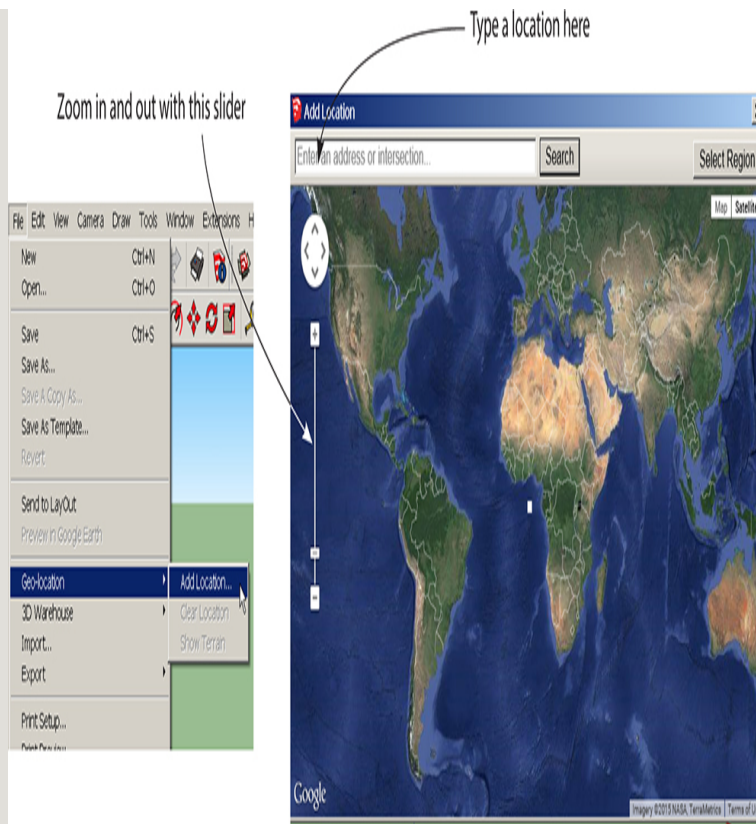

Figure 4-49 Search with the Geo-location feature.
1. Find the general area (Figure 4-49). Click on File > Geo-location > Add Location. This accesses a world map. Type what you're looking for in the search field—an exact address, name of city, state, even landmark. The slider on the left lets you zoom in and out.